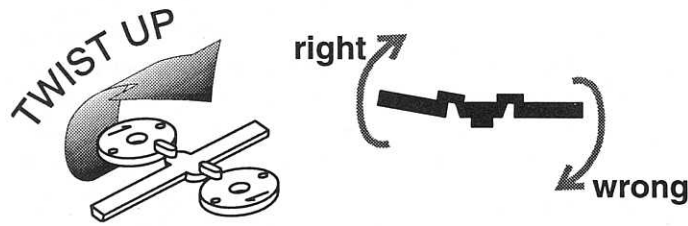

Fig. 91
5) The new molded pistons are designed to help eliminate the possibility of burrs on the edge of the piston. A burr on the piston edge could reduce the shock's smoothness and performance. Remove four shock pistons from the parts tree by twisting the piston up as shown in fig. 91. Twisting the piston down will leave a rough edge on the piston and will make the shock inconsistent. If there are any burrs, **carefully** remove them with a sharp hobby or X-acto© knife.